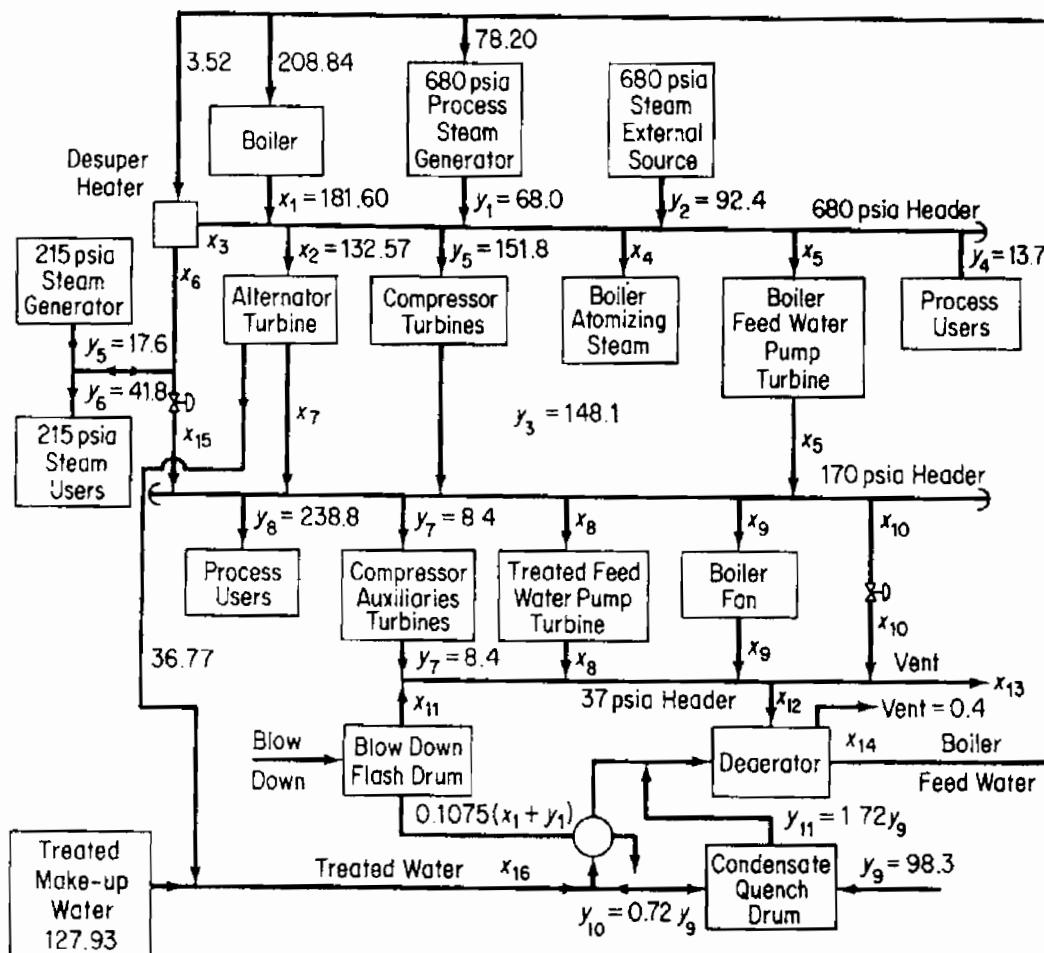

Figure P31.16
- 31.16** Determine the values of the unknown quantities in Figure P31.16 by solving the following set of linear material and energy balances that represent the steam balance: